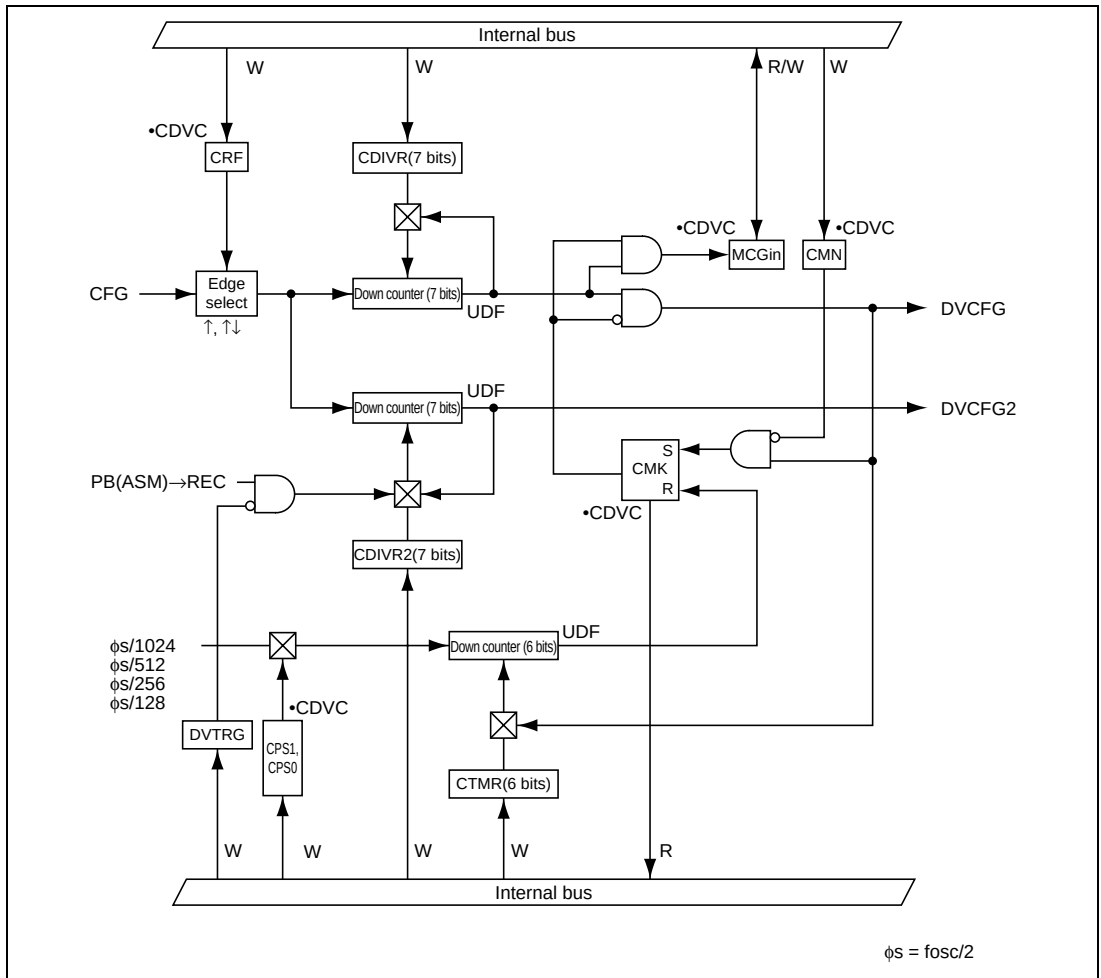

**Figure 26.65 CFG Frequency Divider**
**Block Diagram:** Figure 26.65 shows a block diagram of the 7-bit CFG frequency divider and its mask timer.